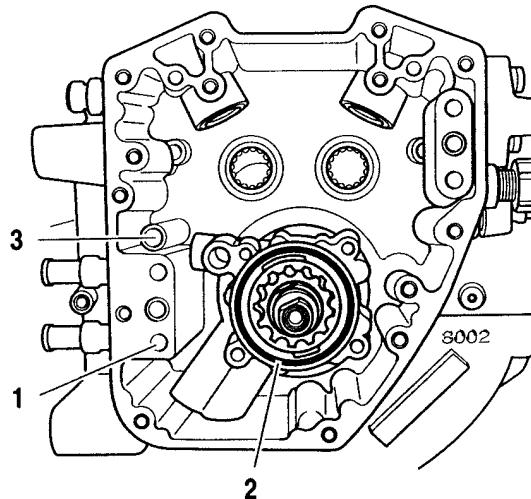

Figure 3-58. Oil Pump O-rings
14. See Figure 3-58. Remove O-ring (1) from groove around oil feed hole in crankcase flange. Discard O-ring.
15. Remove and discard O-ring (3) from crankcase post.
2. See Figure 3-58. Remove O-ring (2) from outboard side of oil pump housing. Remove O-ring from scavenge port stub. Discard O-rings. See 3.28 OIL PUMP for inspection and repair information.